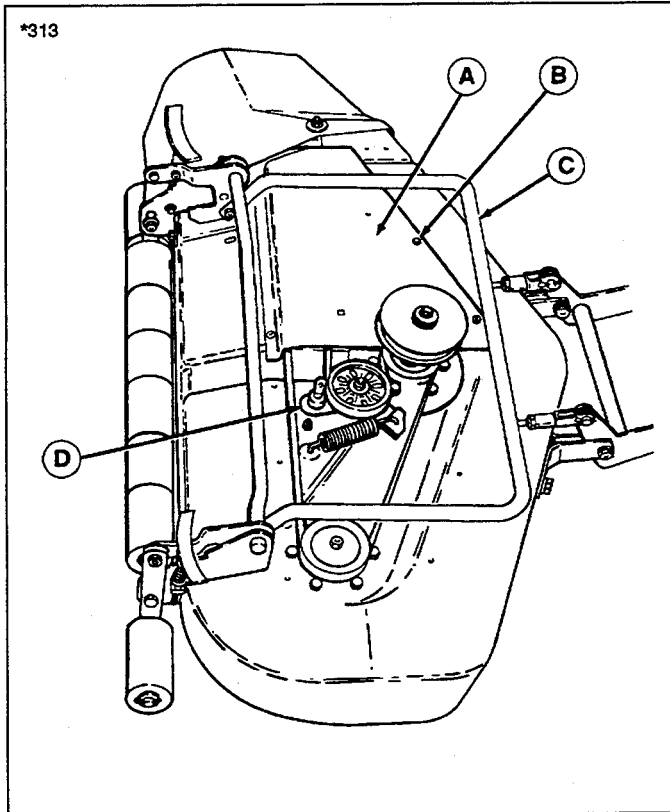

Figure 11. Idler Pulley Pivot
3. See figure 11. Remove the taptite screws to remove the R.H. cover. Both covers can be removed to check/clean mower deck.